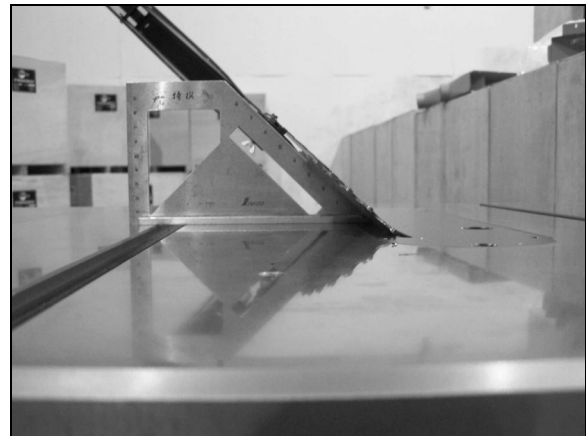

Figure 12
1. Using a 45 gauge as shown in figure 12, tilt the blade until it makes contact with the guage making sure the guage does not hit the saw teeth.